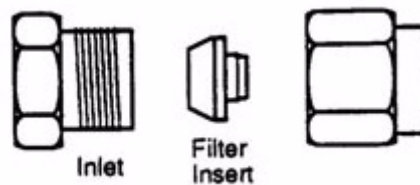

Figure 3 - Replacing the Filter Insert
3. Disassemble the filter using two 5/8-inch wrenches (Figures 3).